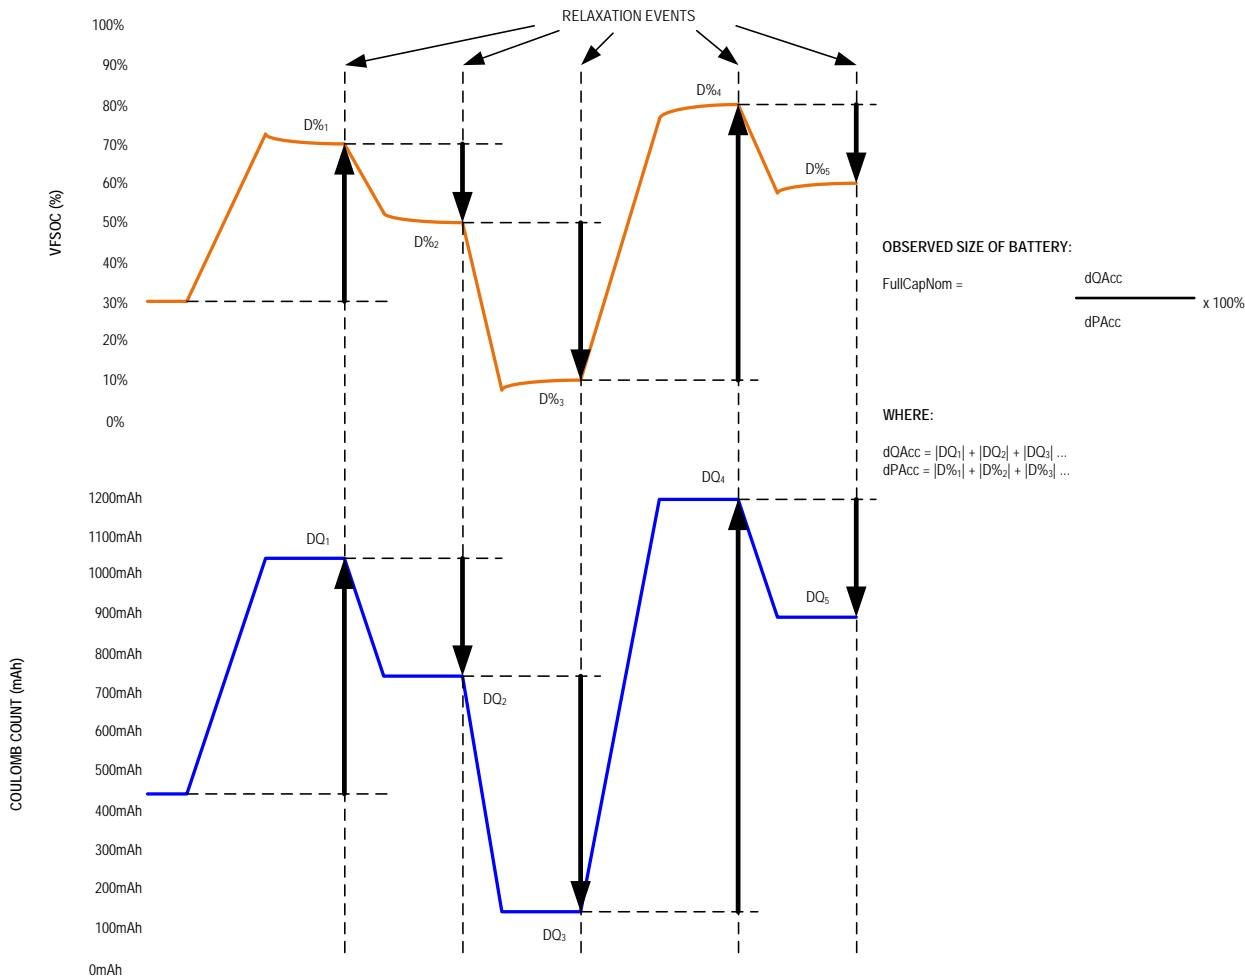

Figure 9. ModelGauge m5 learns full capacity during arbitrary cycling
**Cell Capacity (FullCapNom Register):** This is the total cell capacity at full, including some capacity that sometimes is not available to the application due to high loads and/or low temperature. The IC periodically compares percent change based on an open-circuit voltage measurement vs. coulomb-count change as the cell charges and discharges, maintaining an accurate estimation of the pack capacity in mAh as the pack ages. See Figure 9.